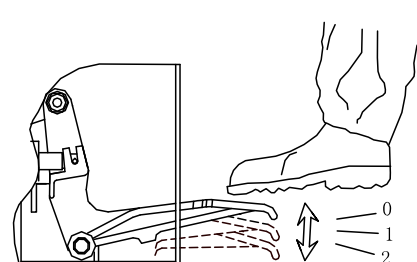
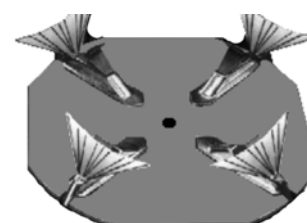

Fig 21
Fig 22
a.Thread the rapid tyre inflation pedal to middlel position (Fig 21,position 1), the inflating head should give air.
b.Thread Rapid Tyre Inflation Pedal all the way down (Fig 21, position 2), a strong air blast should come from the holes in the four jaw s' locking sliders. (Fig 22)